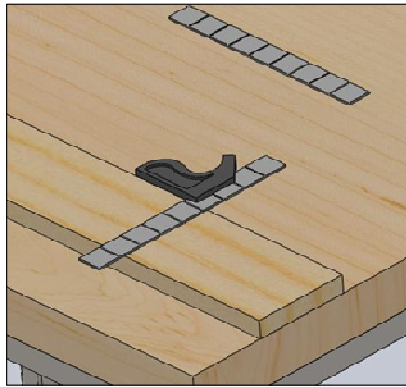

Figure 1: Laying out 100mm piece
- A. Use the **Combination Square**, and a **Pencil** to mark out a 100 mm section on the lumber stock as show in Figure 1.